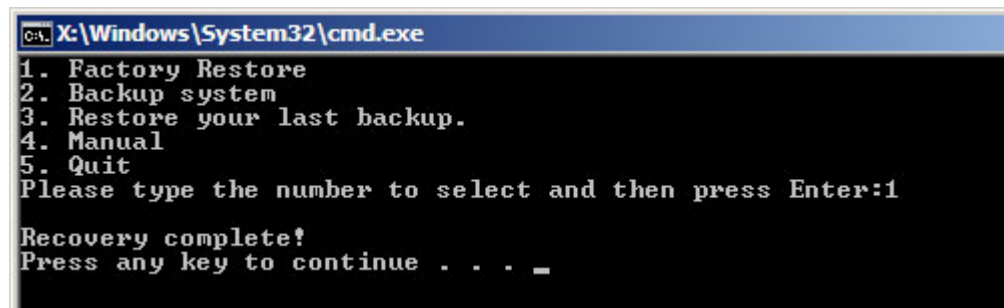

Figure C-36: Recovery Complete Window
Step 3: The screen is shown in **Figure C-36** appears when completed. Press any key to reboot the system.